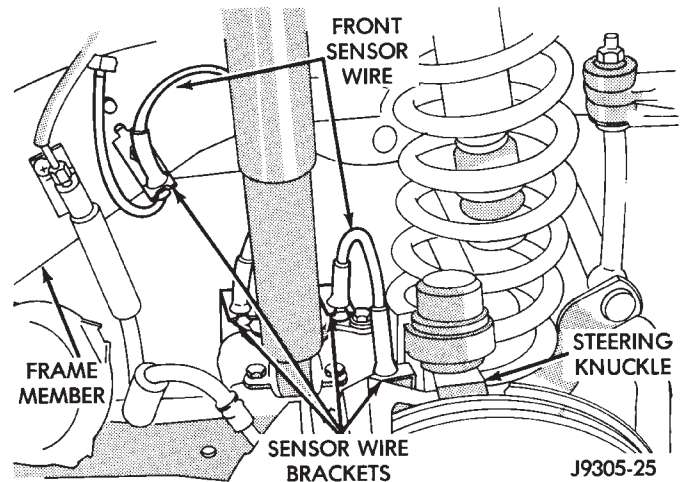
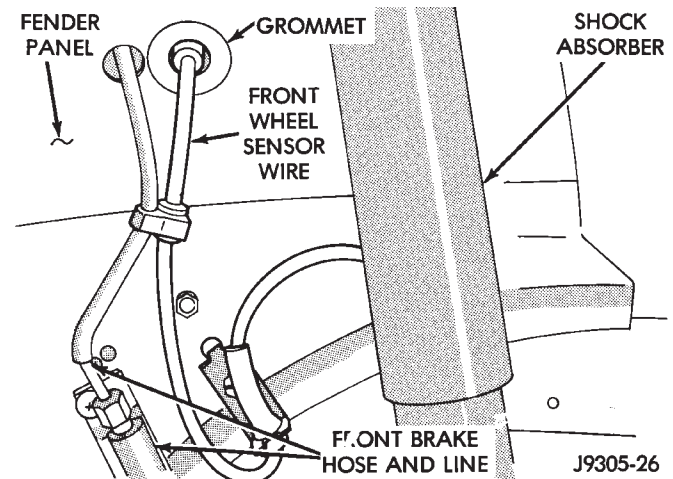

Fig. 19 Sensor Wire Routing
Fig. 20 Sensor Wire Grommet
(5) Disengage sensor wire from brackets on steering knuckle and frame member (Fig. 19) and (Fig. 20).
(6) Unseat grommet that secures sensor wire in fender panel.
(7) In engine compartment, disconnect sensor wire connector at harness plug.